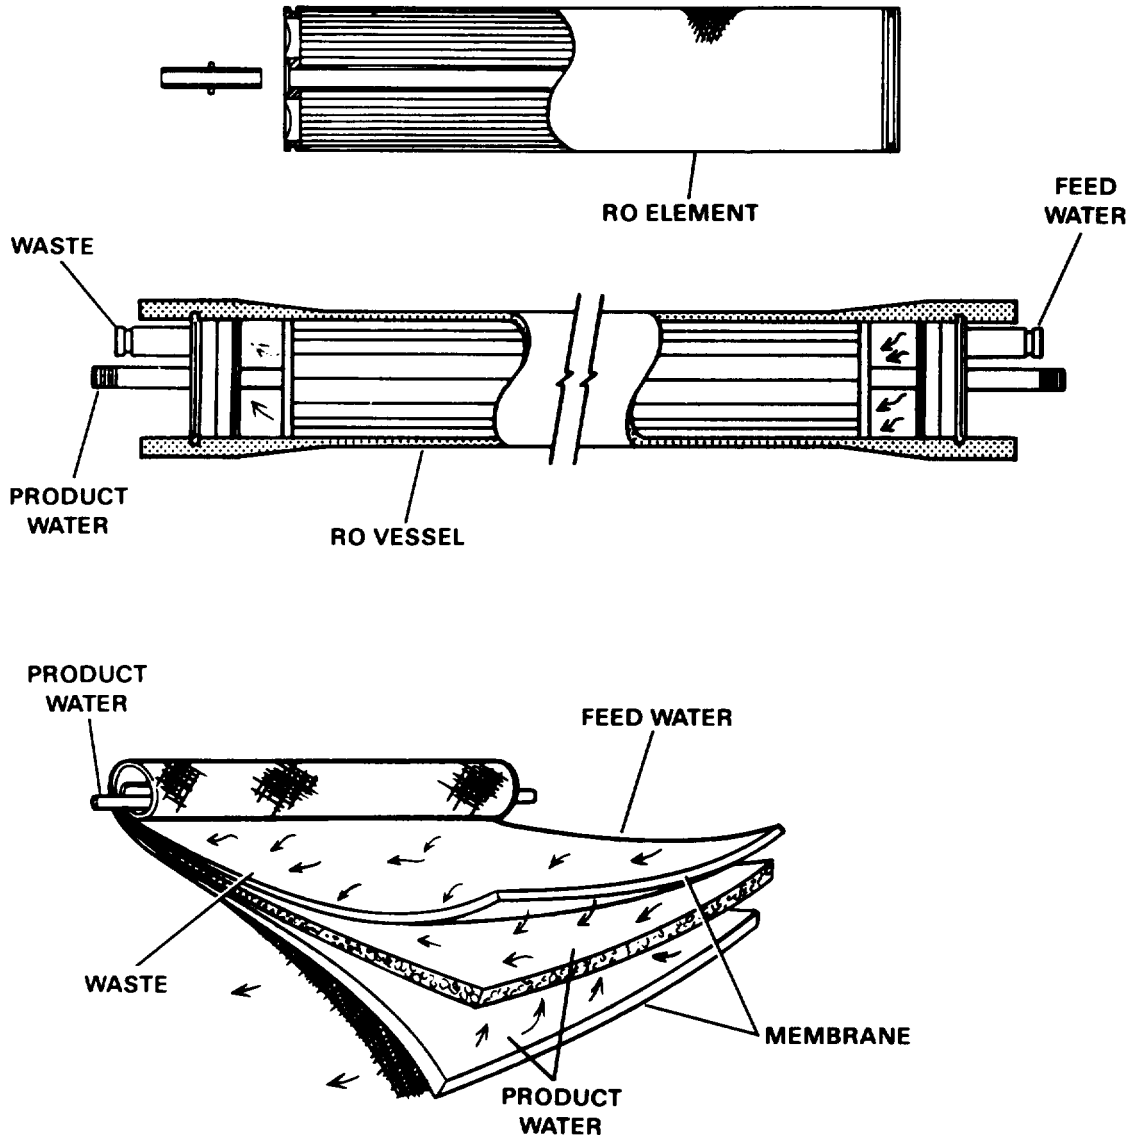

Figure 1-12. Reverse Osmosis Process
c. *Reverse Osmosis (Figure 1-12).* After filtration to remove the suspended solids, the feed water is further processed by reverse osmosis. The feed water is pressurized and delivered to RO vessels containing RO elements. In the RO elements, the feed water flows across sheets of membrane material. Some of the water passes through the membrane sheets and is collected to become product water. Most of the dissolved solids (salts) are blocked from passing through. Only 1/3 to 1/2 of the feed water passes through the membrane sheets to become product water. The rest of the water containing most of the dissolved solids (salts), continues flowing past the membranes and exits the RO vessels as waste water.